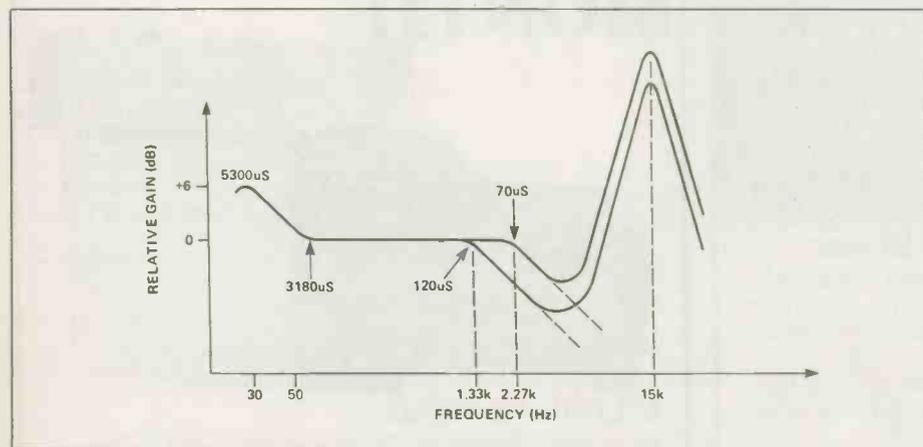

Fig. 12. Record pre-emphasis and de-emphasis for cassettes, showing additional compensation for head losses.
11. Head losses: We have assumed so far, that the recording and replay heads — which are often the same unit in cassette recorders — behave in a perfect manner. They don't. Mainly because of the finite gap width, their HF performance is poor. This means that some form of HF pre-emphasis has to be applied, during recording, to assist in achieving a satisfactory HF output. This recording pre-emphasis, of 15-25 dB magnitude, will be applied, as shown in Fig. 12, at the point where it is expected that the replay HF response will start to fall. This is not a good thing, since it will tend to cause HF overload, and increased distortion and intermodulation effects, but is feasible because signal amplitudes at HF are generally low.